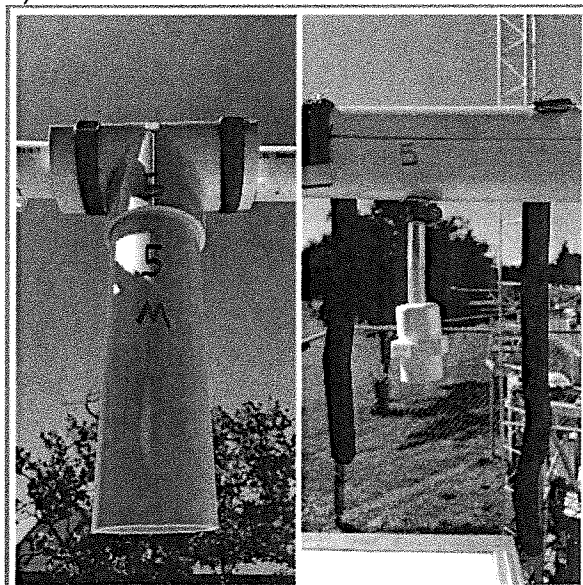

Figure 4: Removing the radiation shield cover.
- 3.1.1.2 Release the VELCRO tape bands and remove the solar radiation shield cover to reveal the sample inlet. Remove the rubber stopper from plastic threaded fitting of the inlet (Figure 4).